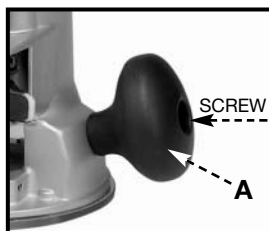

Fig. 25
1. Use a 5/16" hex wrench to loosen the screw in the handle (A) Fig. 25. Remove the handle from the router base. Place the handle and screw aside for use later if needed.